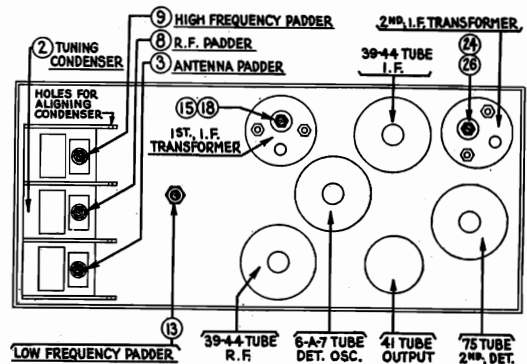

FIGURE 11
Remove the lid from the Receiver. Remove the grid cap from the 6A7 tube (for location see Figure 11).
Set up the signal generator and adjust it to exactly 260 K. C. Connect the generator lead to the grid cap of the 6A7 tube. (See Figure 11.) The output meter must be connected by means of an adapter to the small prong of the speaker plug and to the chassis.
The padders (24) and (26) are adjusted first (Figures 11 and 12). Turn the adjusting screw (24) all the way in. A metal screw-driver can be used for this. Then, with generator attenuator set so there is approximately half-scale reading, adjust the nut (26) with a fibre wrench for the maximum reading on the output meter.
There are four holes in line, one in each of the sections of the tuning condenser housing. (See Figure 11.) Place a nail of the size that fits snugly through the holes and then turn the condenser plates out of mesh until they strike against the nail.